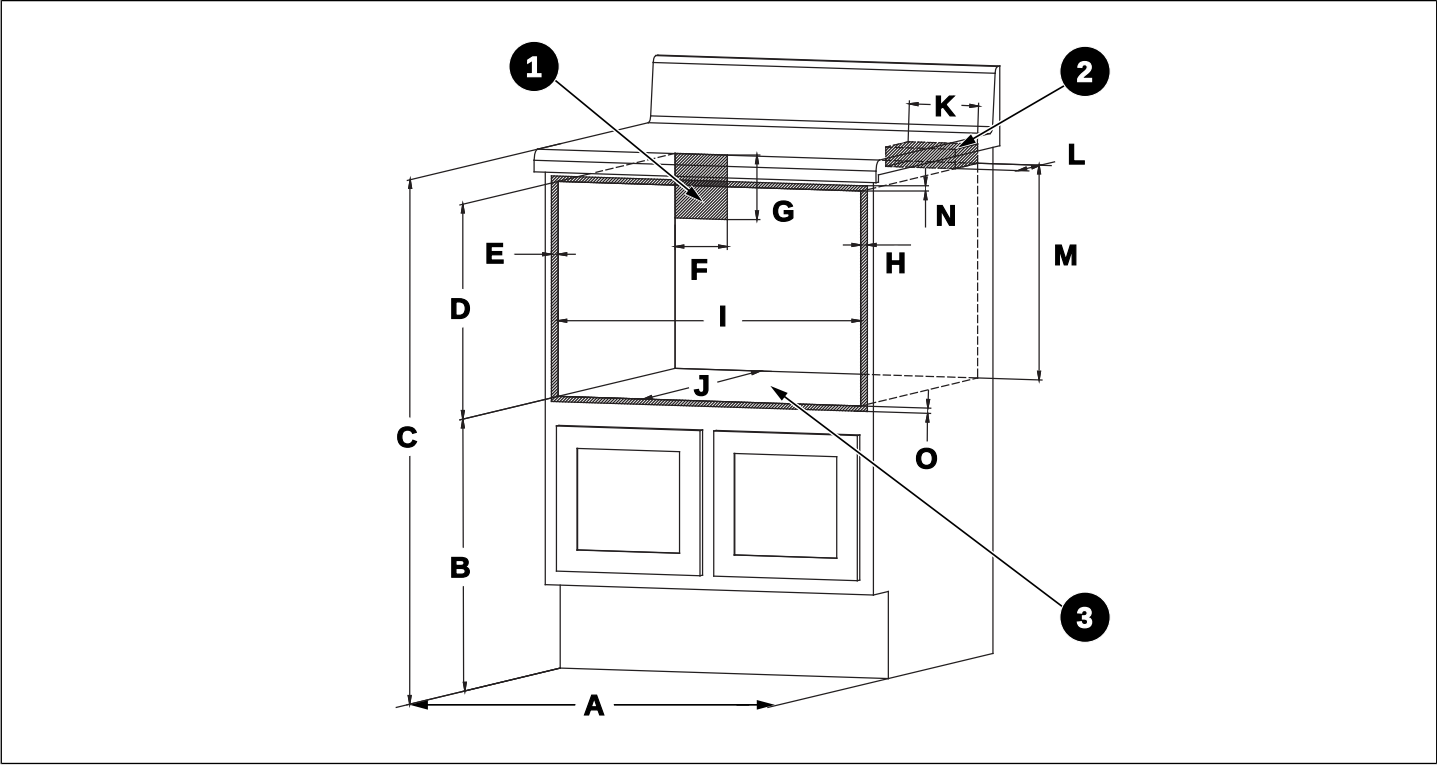
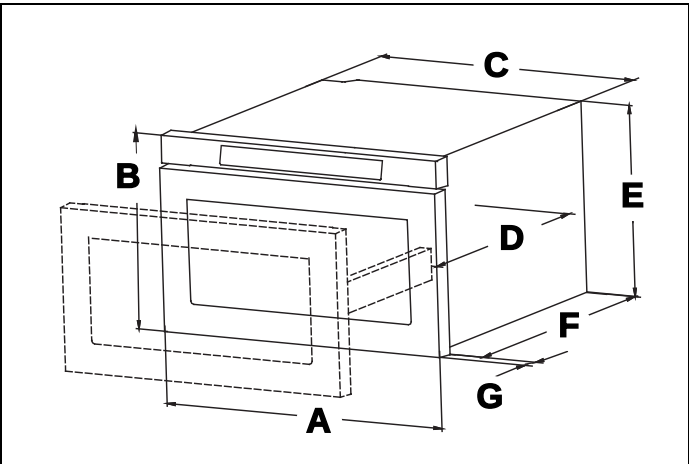
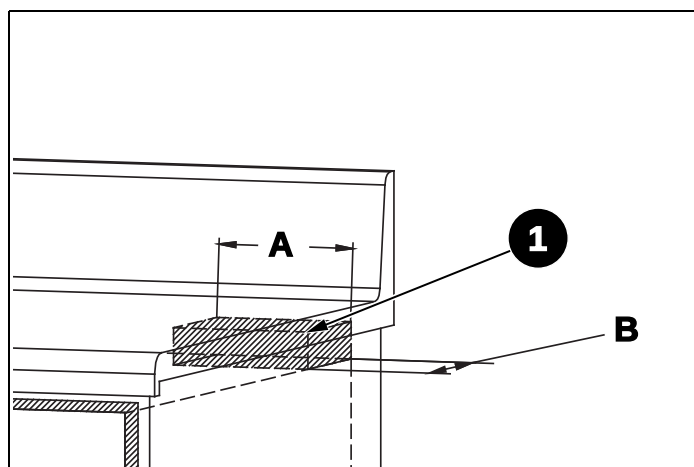

Fig. 4
Fig. 5
Fig. 9
- Dimensions that are shown in Fig. 4 must be used. Given dimensions provide minimum clearance. Locate electrical outlet in the shaded area in the upper left-hand corner of the cutout. Fig. 4
Fig. 4 and Fig. 5 contain many Microwave Drawer measurements for reference when planning the drawer's location . This Microwave Drawer can be installed below any electric or gas wall oven. *Can also be installed using an electrical outlet in an adjacent cabinet within the area where tire provided electrical cord can reach. Power cord access hole in cabinet should be a minimum I 1/2" diameter hole and debarred of all sharp edges.
To reduce the risk of tipping of the drawer, the Anti-Tip block must be properly installed located 14 13/16-inches above the floor on which the Microwave Drawer will sit. The 6-inch Anti-Tip block must be provided by the installer. Fig. 4 and Fig. 9 . The Anti-Tip block prevents serious injury that might result from spilled hot liquids.